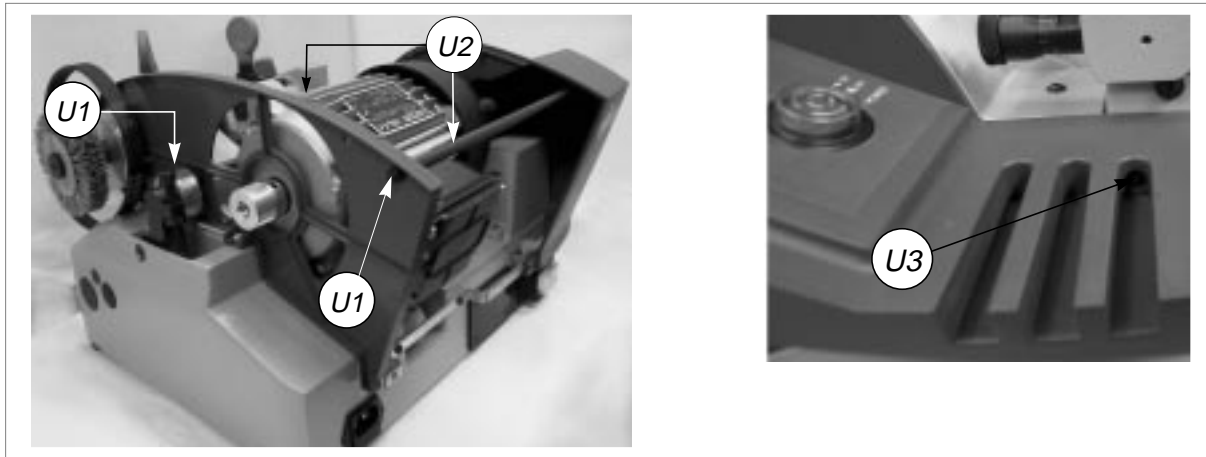

Fig. 31
- 7) Loosen the stay bolts (U2) (fig.31) and remove.
- 8) Loosen the screw (U3) on the left-hand cover (fig.31).